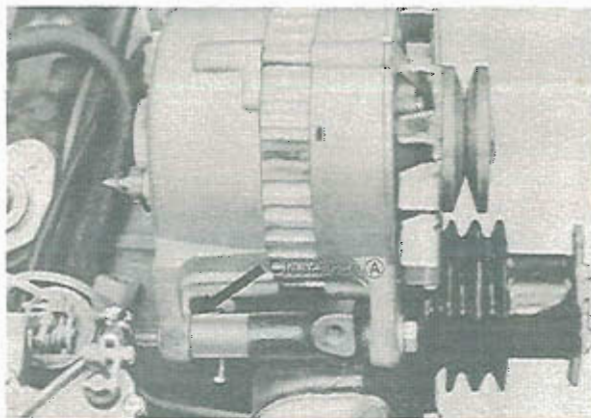

Fig. 1-96 Adjusting alternator fitting
1. Place the alternator to the bracket with the bolt, and check the clearance (A) as shown in Fig. 1-96.